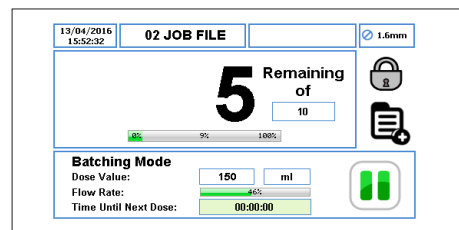

Figure 10 Home Screen - Pause Mode
- ▶ When the pump is running in batch mode, pressing the STOP button, the pump will be temporarily paused as per *Figure 10*.